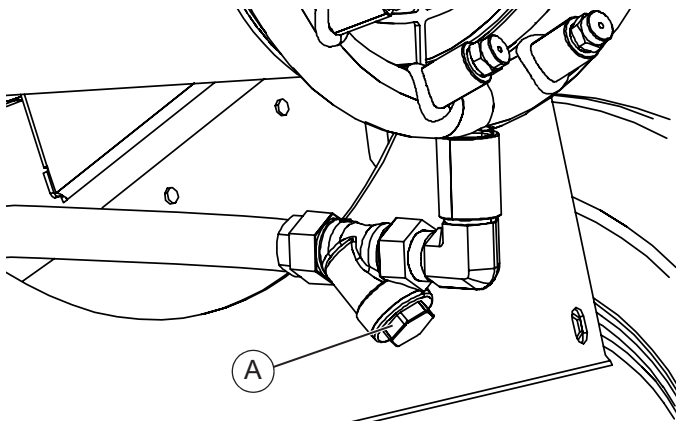

Figure 4-2. Cleaning Inlet Filter
1. Figure 4-2. Remove inlet filter plug (A).